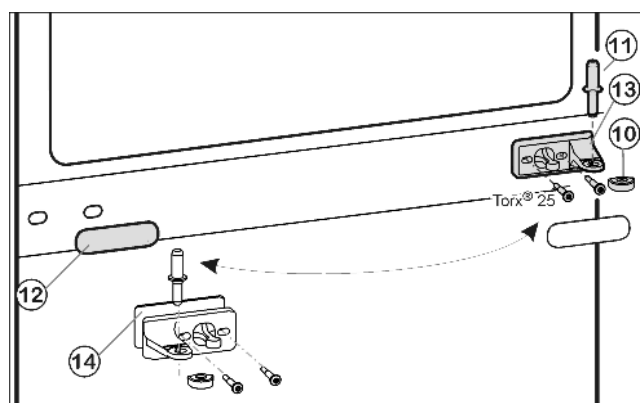
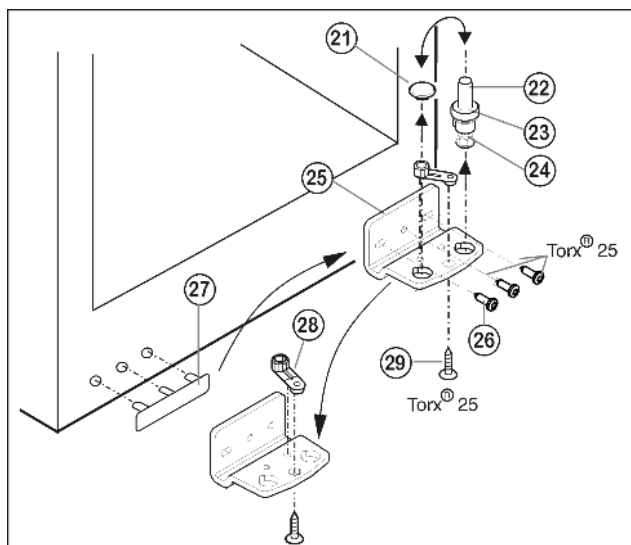

Fig. 8
Fig. 9
- ▶ Draw the middle bearing pin Fig. 8 (11) out of the turn hinge and lower door.
- ▶ Remove the plastic cap Fig. 8 (10).
- ▶ Unscrew the middle turn hinge (2x Torx® 25). Fig. 8 (13)
- Carefully detach the cover panel *Fig. 8 (12)*.
- Turn the middle turn hinge *Fig. 8 (13)* with the washer *Fig. 8 (14)* through 180° and screw it firmly into place on the new hinge side (**with 4 Nm**).
- Turn the cover panel *Fig. 8 (12)* through 180° and snap it into place again on the new handle side.
- Lift out the bearing pin *Fig. 9 (22)* together with washer *Fig. 9 (23)* and foot *Fig. 9 (24)*.
- Lift off the stopper *Fig. 9 (21)*.
- Unscrew *Fig. 9 (26)* the turn hinge *Fig. 9 (25)*.
- Unscrew *Fig. 9 (29)* the bearing element *Fig. 9 (28)*, transfer it to the opposite location hole of the turn hinge and screw it firmly into place.
- Carefully lift off the cover on the handle side *Fig. 9 (27)* and transfer it to the opposite side.
- Screw the turn hinge *Fig. 9 (25)* firmly into place on the new hinge side, possibly using a cordless screwdriver (**with 4 Nm**).
- Re-insert the stopper *Fig. 9 (21)* into the other hole.
- Re-insert the bearing pin *Fig. 9 (22)* together with washer and foot. In so doing, pay attention that the locating lug points backwards
- Place the lower door from above onto the lower bearing pin *Fig. 9 (22)*.
- Place the plastic cap *Fig. 8 (10)* back onto the middle turn hinge *Fig. 8 (13)*.
- Place the middle bearing pin *Fig. 8 (11)* in the lower door, on the new hinge side, through the middle turn hinge *Fig. 8 (13)*.
- Place the upper door on the middle bearing pin *Fig. 8 (11)*.
- If necessary, align the doors to the appliance housing by way of the two oblong holes in the bottom turn hinge *Fig. 9 (25)* and middle turn hinge *Fig. 8 (13)*. To do so, unscrew the middle screw in the bottom turn hinge *Fig. 9 (25)*.